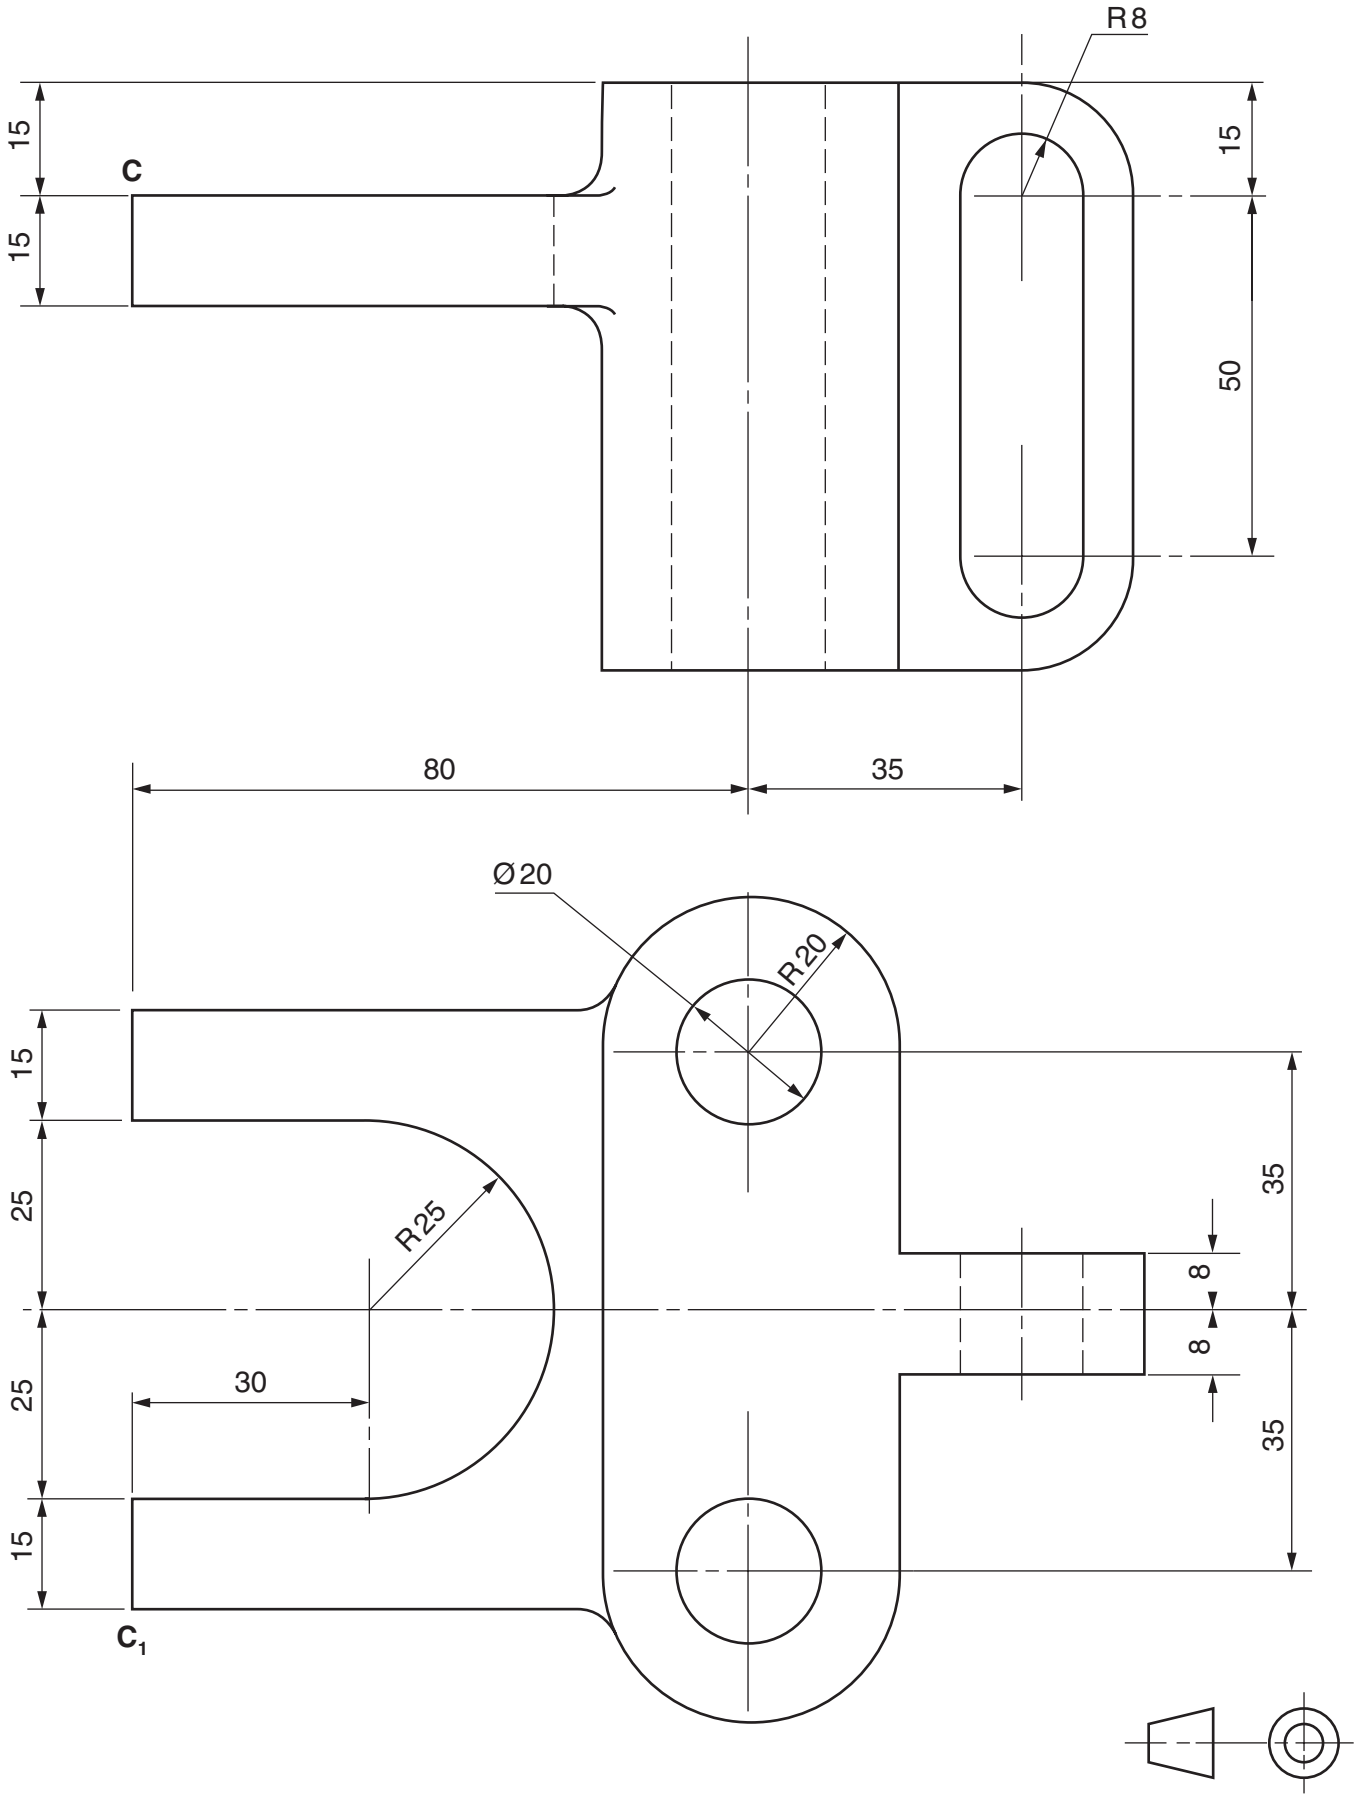

Fig.1
- 1 Fig. 1 shows, in first angle orthographic projection, a fork lever. Make a well proportioned freehand pictorial sketch, approximately full size with point **C** being in the foreground.